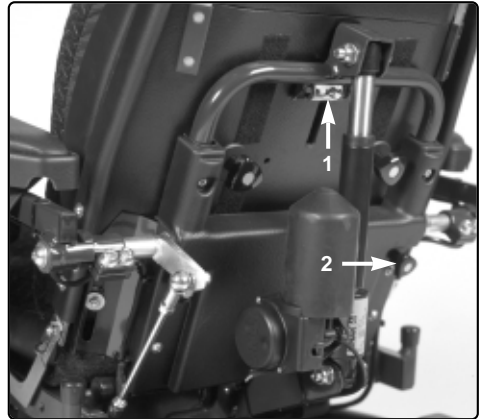

Figure 13. The mounting of the back
1. Loosen the cotter, figure 13:1.
2. Loosen the knobs on the right and left sides of the back; see figure 13:2.